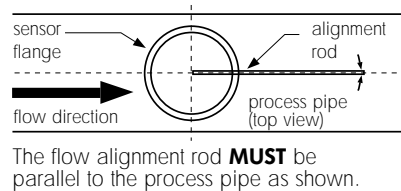
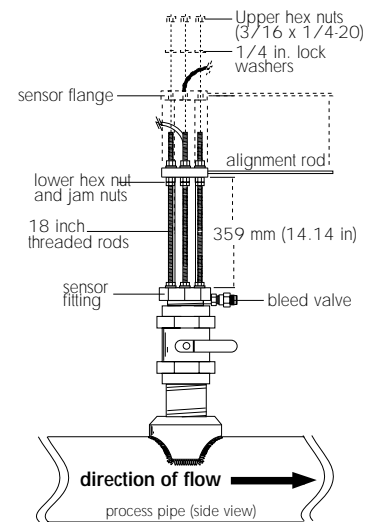

Fig. 10
Fig. 11
C. Wipe the sensor body with a dry, clean cloth. Orient the alignment hole on the sensor flange to point **downstream**. Place the slotted flange over the threaded rods. Lower the sensor into the fitting until the sensor flange rests on the lower hex and jam nuts. (Fig. 10 & Fig. 11)
D. Secure the sensor with lock washers and upper hex nuts on the top of the flange. Before tightening, align the sensor flange so that the alignment rod is parallel and level with the process pipe. (Fig. 10 & Fig. 11)